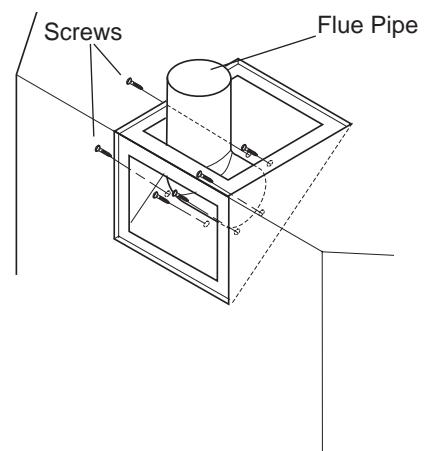

Figure 11 - Attaching Flue Pipe to Top Vent Configurations
5. Replace flue pipe to top of firebox. Ensure the gasket is in place and undamaged. Secure with six (6) screws. *See Figure 11.*
7. Refit the flue pipe adapter and gasket to the top of fireplace. Secure the adapter with eight (8) screws removed in step 1.